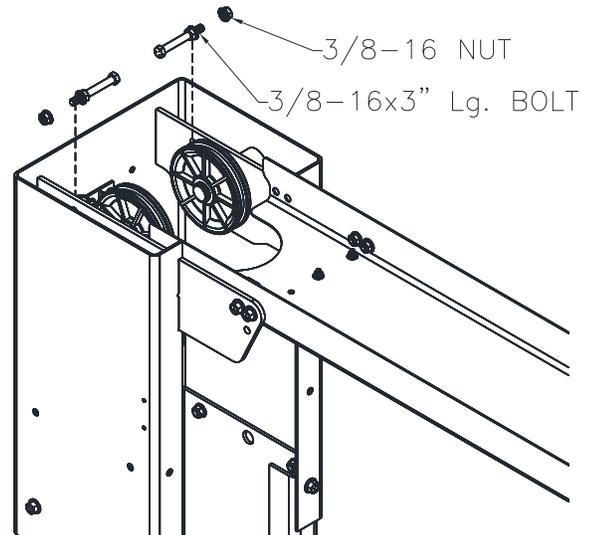

Fig. 10 – Column Ext. Cable Trapping
- 24) At the top of each column extension assemble a 3/8-16 x 3"lg bolt with (2) 3/8-16 flange nut at each sheave location, **Fig. 10.**